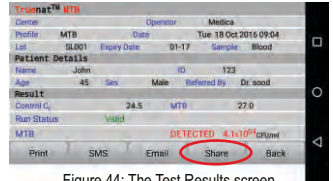

Figure 44: The Test Results screen
- The results are named automatically by the Analyzer in the format “profile-date-time-patient:ID”. For example, in figure 44, the last result in the list named “MTB-RIF on 2016-11-18 09-34-22 Patient:GARC107”, indicates it was a test using the MTB-RIF profile that was performed on the 18th of November 2016 at 9:34 AM for sample with Patient ID GARC107.